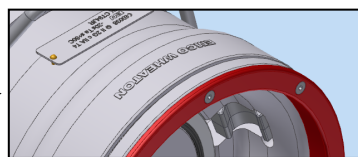
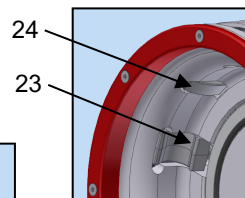

Fig. 7
Fig. 5
28. Depress 5 x Locking Claws (23) and Safety Lug (24) (Fig. 5) to allow the sleeve to slide forward (Fig. 7).